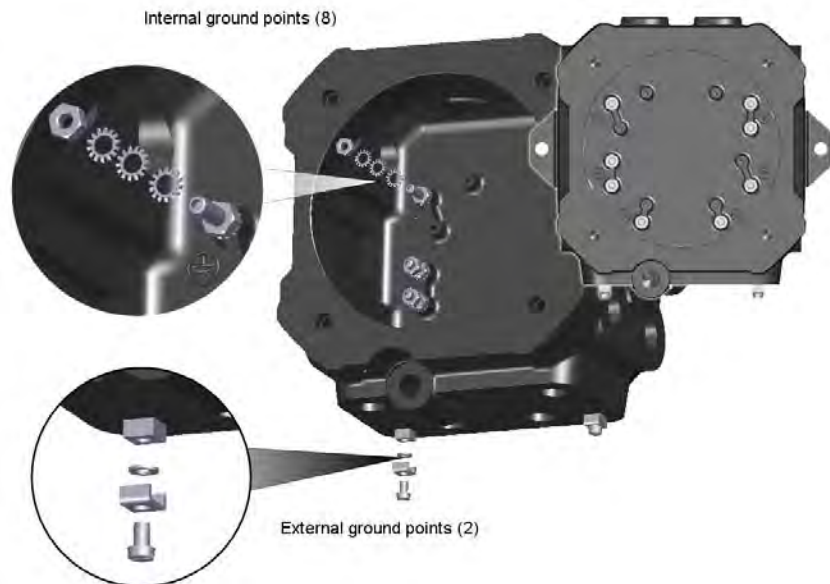

FIGURE 3-19
- External (2) and internal (8) ground points (see FIGURE 3-19).